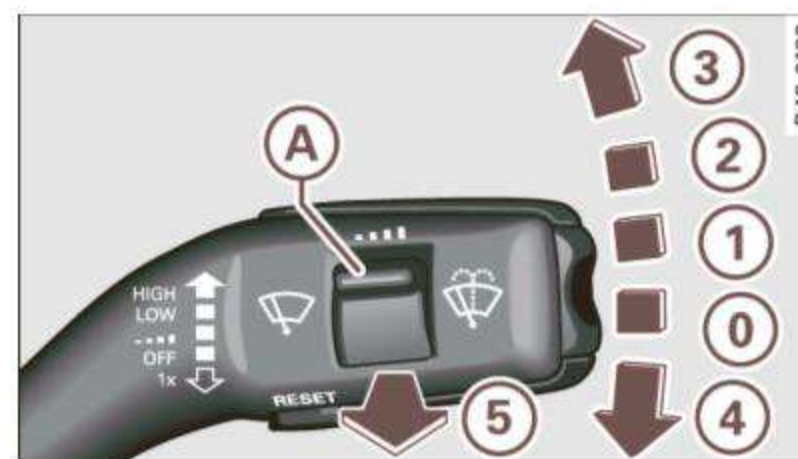

Fig. 50 Wiper lever
The windshield wiper lever ⇒ *page 60*, fig. 50 has the following positions:
- Move the wiper lever to position **0** \Rightarrow *page 60*, fig. 50.
- Switch the ignition on and move the wiper lever from position **0** to **4** \Rightarrow *page 60*, fig. 50. The wiper arms will move back to the park position.
- Switch the ignition on and move the wiper lever down briefly ⇒ *page 60, fig. 50*. The wiper will move back to the park position.